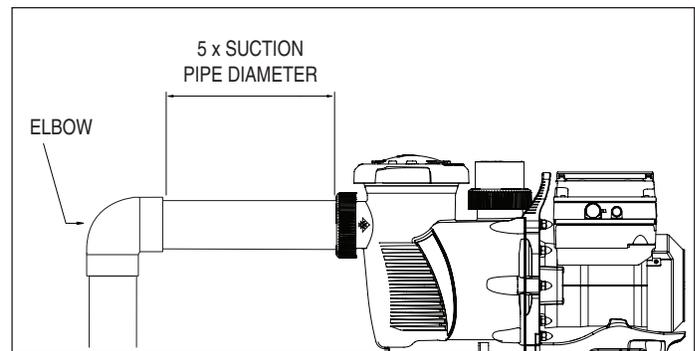

Figure 2: Recommended Piping
4. For most installations Pentair recommends installing a valve on both the pump suction and return lines so that the pump can be isolated during routine maintenance. However, we also recommend that a valve, elbow or tee installed in the suction line should be no closer to the front of the pump than five (5) times the suction line diameter. See **Figure 2**.